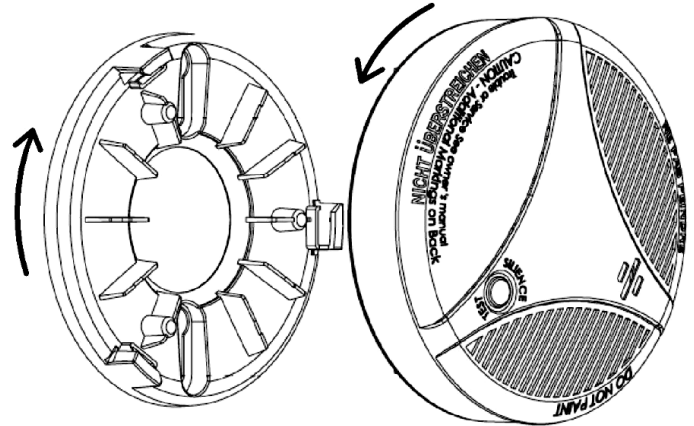

Fig. 7: Removing the Mounting Bracket
2. Remove the Mounting Bracket from your detector by rotating it counterclockwise, shown in **Fig. 7**.